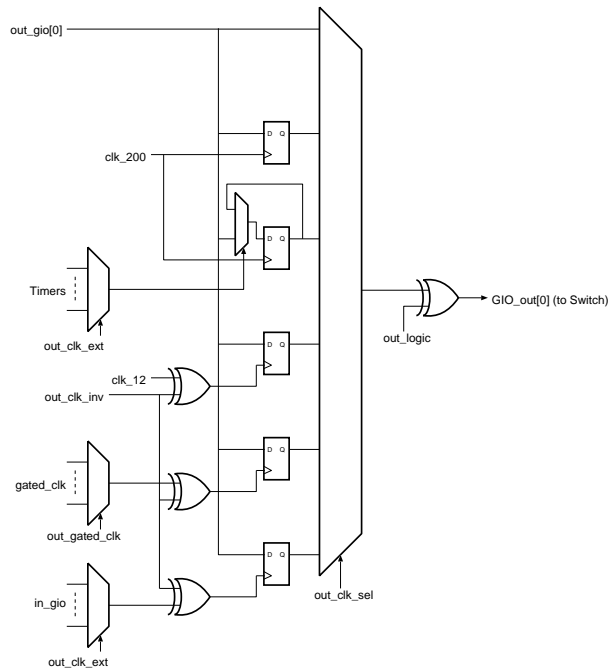

Figure 13.40: *SAP_out*, *GIO out synchronization*, *GIO_out 0*
Each bit of the 32 bit wide GIO.out can have its own output clocking configuration. The vector register rw_gio contains ten fields where five of them are used for GIO and the other five are used for output enable (OE) of each GIO. The GIO out signal can be configured to be clocked out according to figure See figure 13.40 (figure shows GIO[0]).